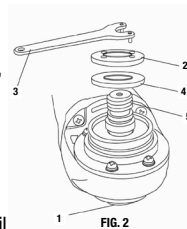

FIG. 2
1. Depress the spindle lock button (1) and rotate the clamp nut (2) until the spindle locks (Fig. 2).